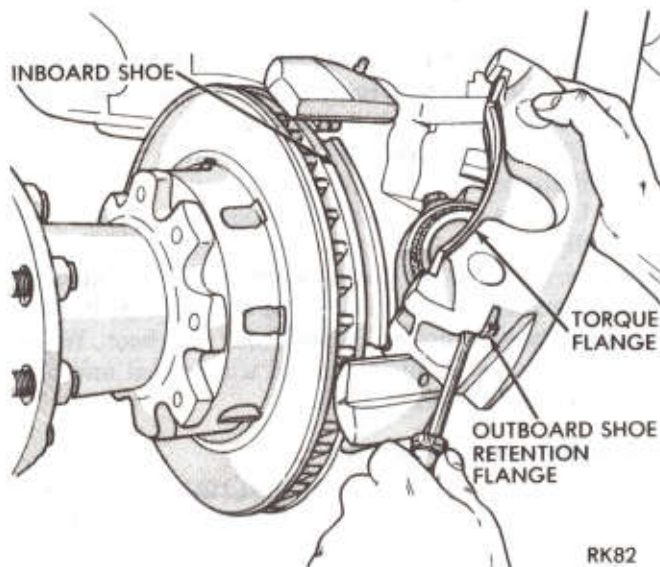

Fig. 7—Removing Outboard Shoe from Caliper
(5) Remove the caliper from the adapter and tap or pry the outer shoe and lining from the caliper (Fig. 7). Hang the caliper from a heavy wire or support on the front suspension. **Do not let the caliper hang with the weight of the caliper on the brake hose.**